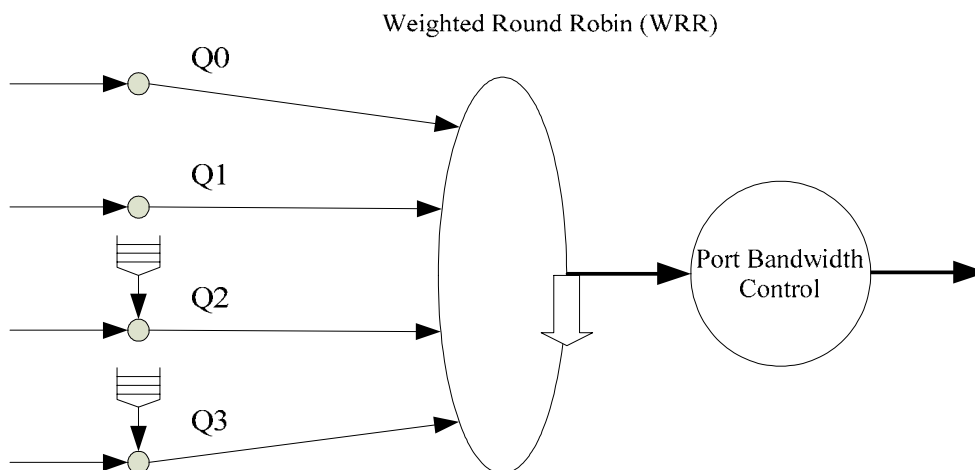

Figure 17. RTL8306E Packet-Scheduling Diagram
- Type I leaky bucket, which specifies the average rate of one queue (see Figure 17; only Q2 and Q3 have leaky bucket, Q0 and Q1 do not)
In addition, the RTL8306E can select one of the two sets of packet-scheduling configurations according to the packet-scheduling mode. Figure 17 shows the RTL8306E packet-scheduling block diagram.